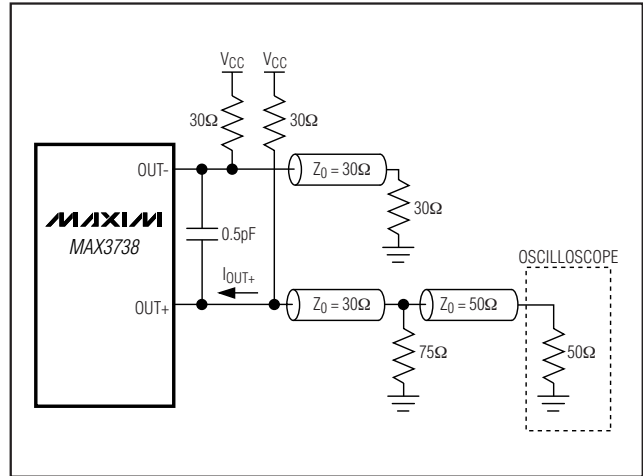

图2. 特征参数的测试电路
**Note 1:** AC characterization is performed using the circuit in Figure 2 using a PRBS  $2^{23} - 1$  or equivalent pattern.